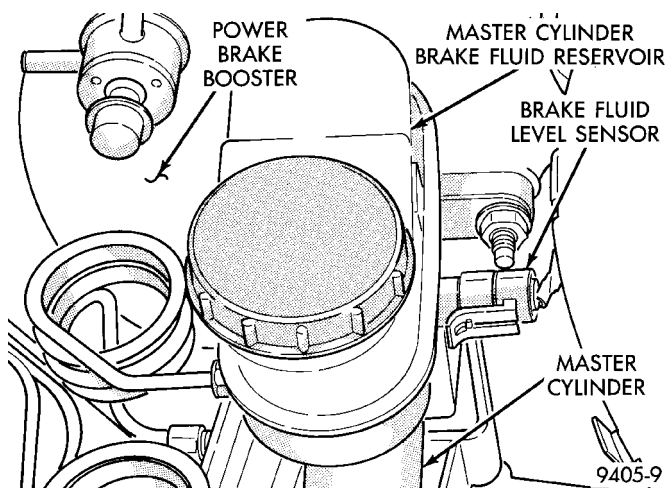

Fig. 101 Master Cylinder Fluid Level Sensor
(1) On ABS equipped vehicles, be sure engine is not running, and pump the brake pedal until a firm pedal is achieved (4-5 strokes).
(2) Remove vehicle wiring harness connector, from brake fluid level sensor, in master cylinder brake fluid reservoir (Fig. 101).